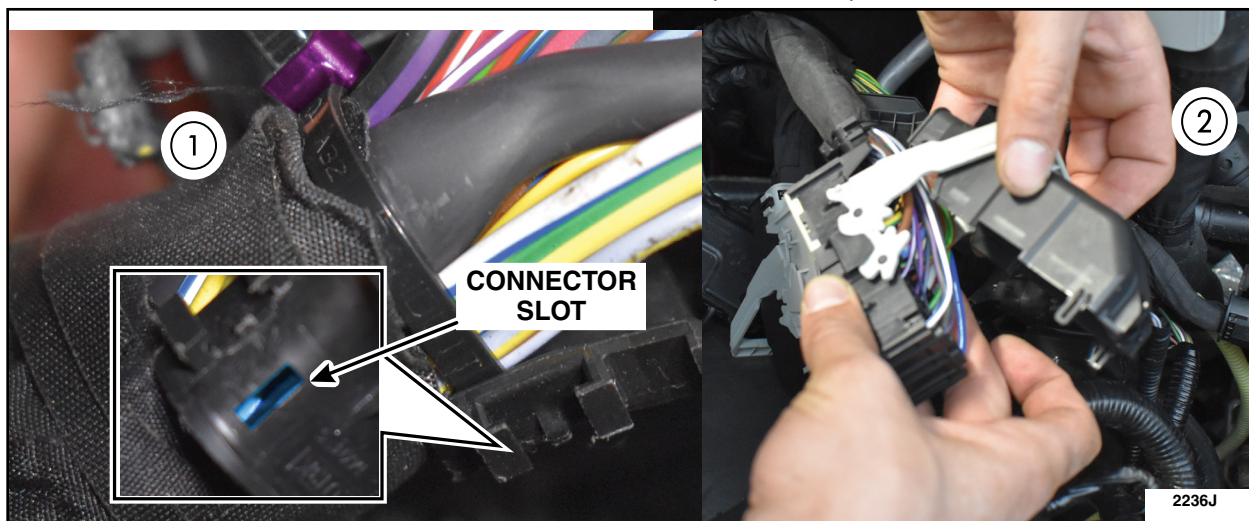

FIGURE 22
25. Secure wire covering and wire bundle with a zip tie. Clip back shell into place on connector C1035B. See Figure 22.